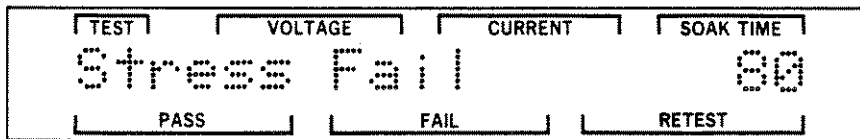

Figure 3-21. Stress Failure Total Screen
STEP 7. Press the DOWN pushbutton several times. Various Detail screens will be displayed. Figure 3-21 is an example of the total for the DUTs that failed the Stress test.